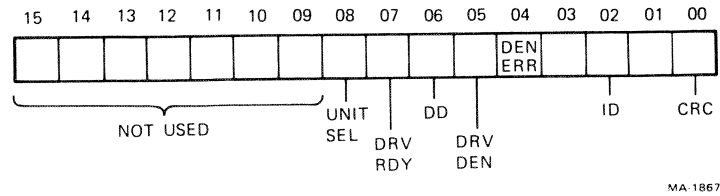

Figure 4-21 RXES Format (RX11, RXV11)
4.2.2.6 RXES - RX Error and Status (Figure 4-21) - This register contains the current error and status conditions of the drive selected by bit 4 (Unit Select) of the RXCS. This read-only register can be addressed only under the protocol of the function in progress (Paragraph 4.2.3). The RXES content is located in the RXDB upon completion of a function.